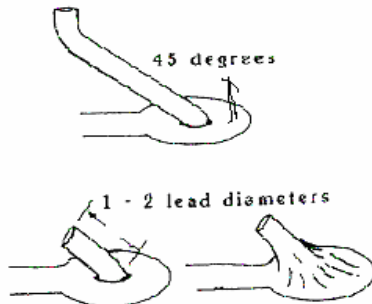

Figure 3: semi-clenched solders
6. Semi-clenched see **Figure 3**